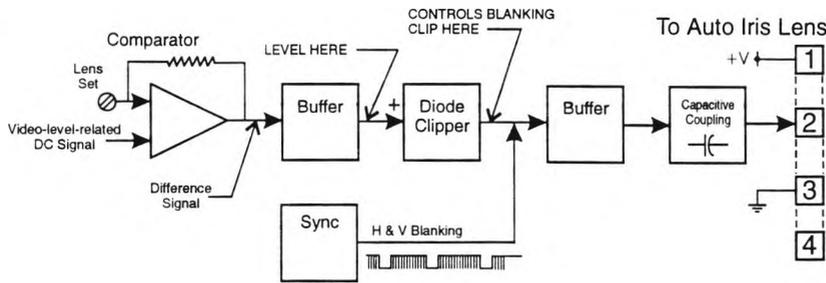

Fig. 4. Derived Video Drive for Auto-iris Lens
signed (fig. 4) generate a derived video obtained by modulating the composite blanking signal with a dc signal related to video level. (2) More-recent designs use true video tapped off (prior to agc) and isolated from the
Figure 4 shows generation of the derived video from composite blanking. A dc signal related to the video level is applied to a comparator stage. One input of this stage is biased by a Lens Set potentiometer. The other input receives a dc signal whose level relates to the level of the video output of the camera. The output of this comparator is a difference (error) signal that is buffered for application to the plus (+) side of a diode clipper. The voltage level at this side of the diode clipper determines the clipping level of the composite blanking (an ac
Figure 4 shows a method of increasing the number of Slave Cameras in a genlock configuration. By replacing the Master Camera with a dedicated sync generator the number of Slave Cameras that can be put on
Figure 4. Instead of a Master Camera driving the Slave Cameras a sync generator can be used. The typical sync generator will have the ability to drive more Slave Cameras than a camera is capable of driving. The sync generator provides horizontal and vertical sync pulses, but no video. In this arrangement the last Slave Camera at the end of the cable must be terminated with 75 ohms. All other Slave Cameras must provide a high impedance to the genlock cable.